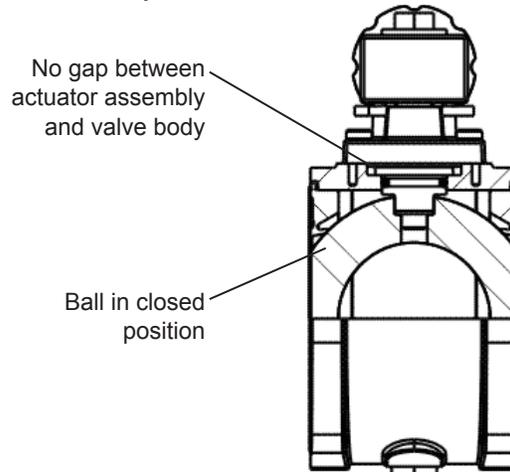

Figure 8
2. Push the actuator assembly down against valve body assembly and rotate the assembly in both directions slightly while pushing assembly against valve body until actuator drops into slot in valve ball as shown in Figure 8. There should be no gap between the actuator assembly and the valve body.